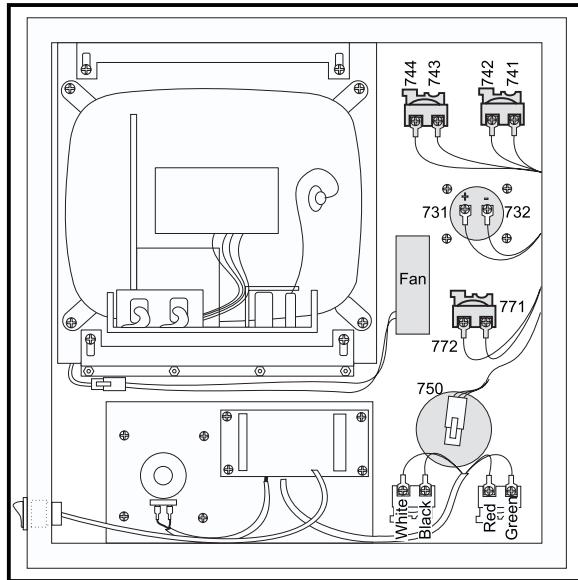

Figure 4-11. Interior of control panel (rear).
7. Replace by sliding the new assembly onto the eight bolts (four each on top and bottom). Starting with the bottom right, place the washers and hex nuts on the bolts to hold in place. Refer to Fig. 4-11 for the order of replacement. Once all washers have been attached and nuts have been hand-tightened, tighten down completely with the socket.
3. Disconnect all leads to the switch's connectors. Ensure all leads are properly marked for reconnecting later. Refer to Fig. 4-11 for proper locations.